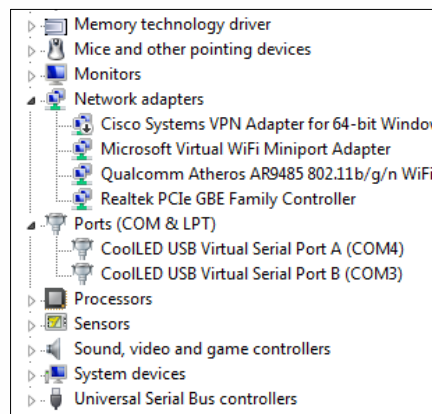
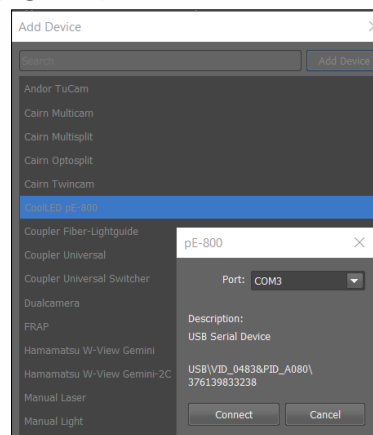

Figure 1: Device Manager with a pE-4000 installed
Figure 6: If COM port is incorrect, update this by selection via the drop-down menu
3. The correct COM port should show automatically (you can ensure that the COM port is correct by checking Windows Device Manager, Figure 1). If this is incorrect, it can be altered via the drop-down menu (Figure 6).